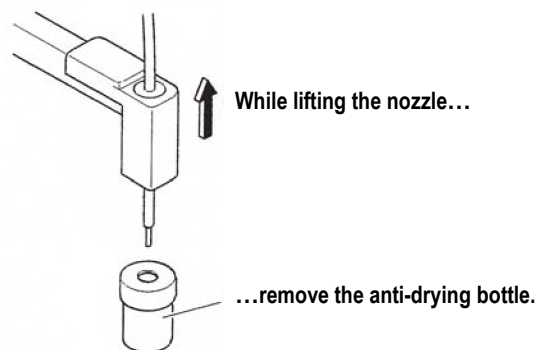

Figure 5-A
2. Remove the anti-drying bottle while lifting the dispensing nozzle (Figure 5-A).